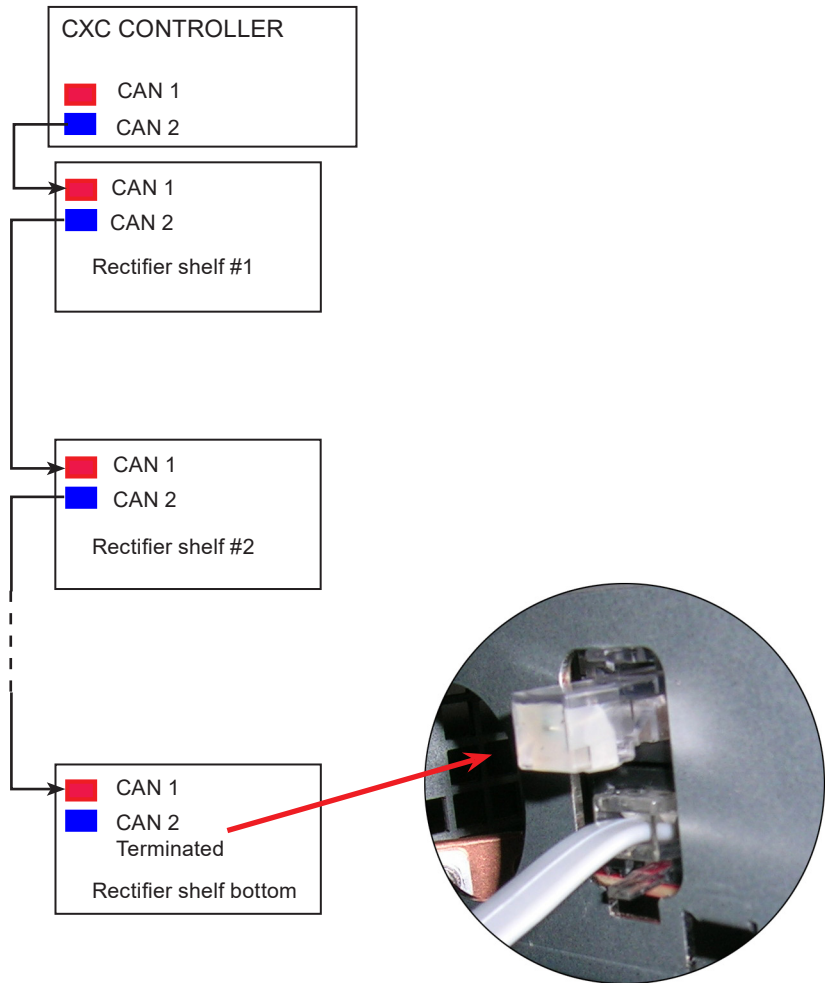

Figure 9 — CAN Bus Cabling
1. Daisy-chain from shelf to shelf (CAN 1 of one shelf to CAN 2 of another) as shown in Figure 9.